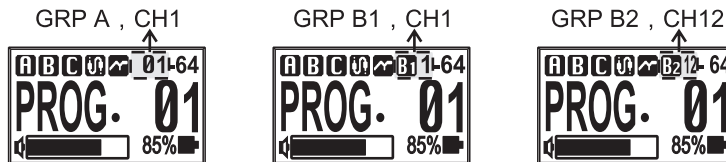

Fig. 10
- (1) **ABC** Icon indicates programmed AF output jack signal status.
- (2)  Icon indicates the Cable Tone is added.
- (3)  Icon indicates the Anti-feedback or Accoustic Response is added.
(C) Synchronized transmitter GRP and Channel, Fig. 10